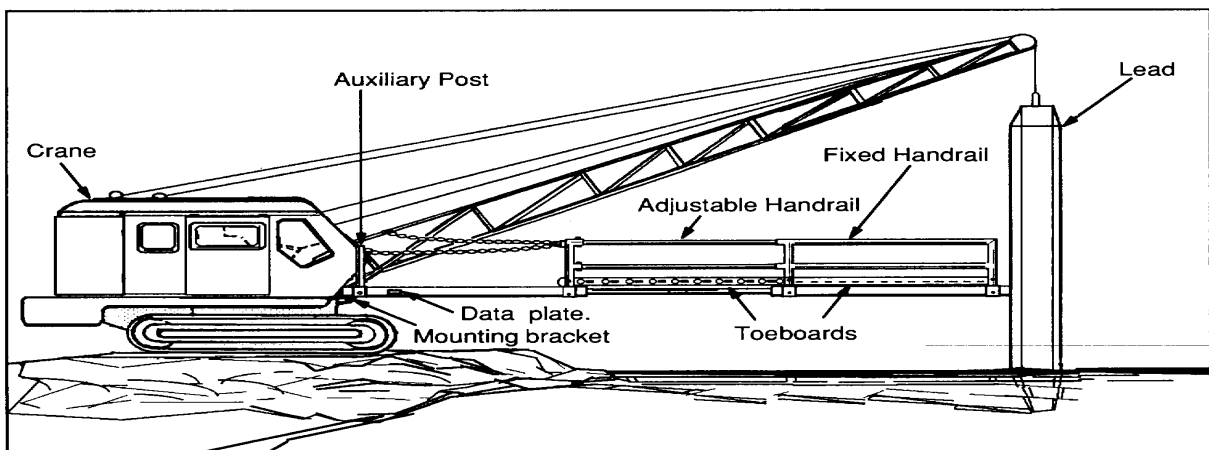

Figure 1. Catwalk
Complete the assembly by installing (4) 1/2-13 x 2" lg. screws, (4) 1/2" Lock washers, and (4) 1/2-13 Nuts thru the aligned 9/16 holes adjacent to pipe channels in Catwalk Inner Section (13229E-5623) with the aligned 5/8 holes in the Catwalk Outer Section (13229E-5624). Screws are installed from the inside of the Sections. (See section view in Figure 1).